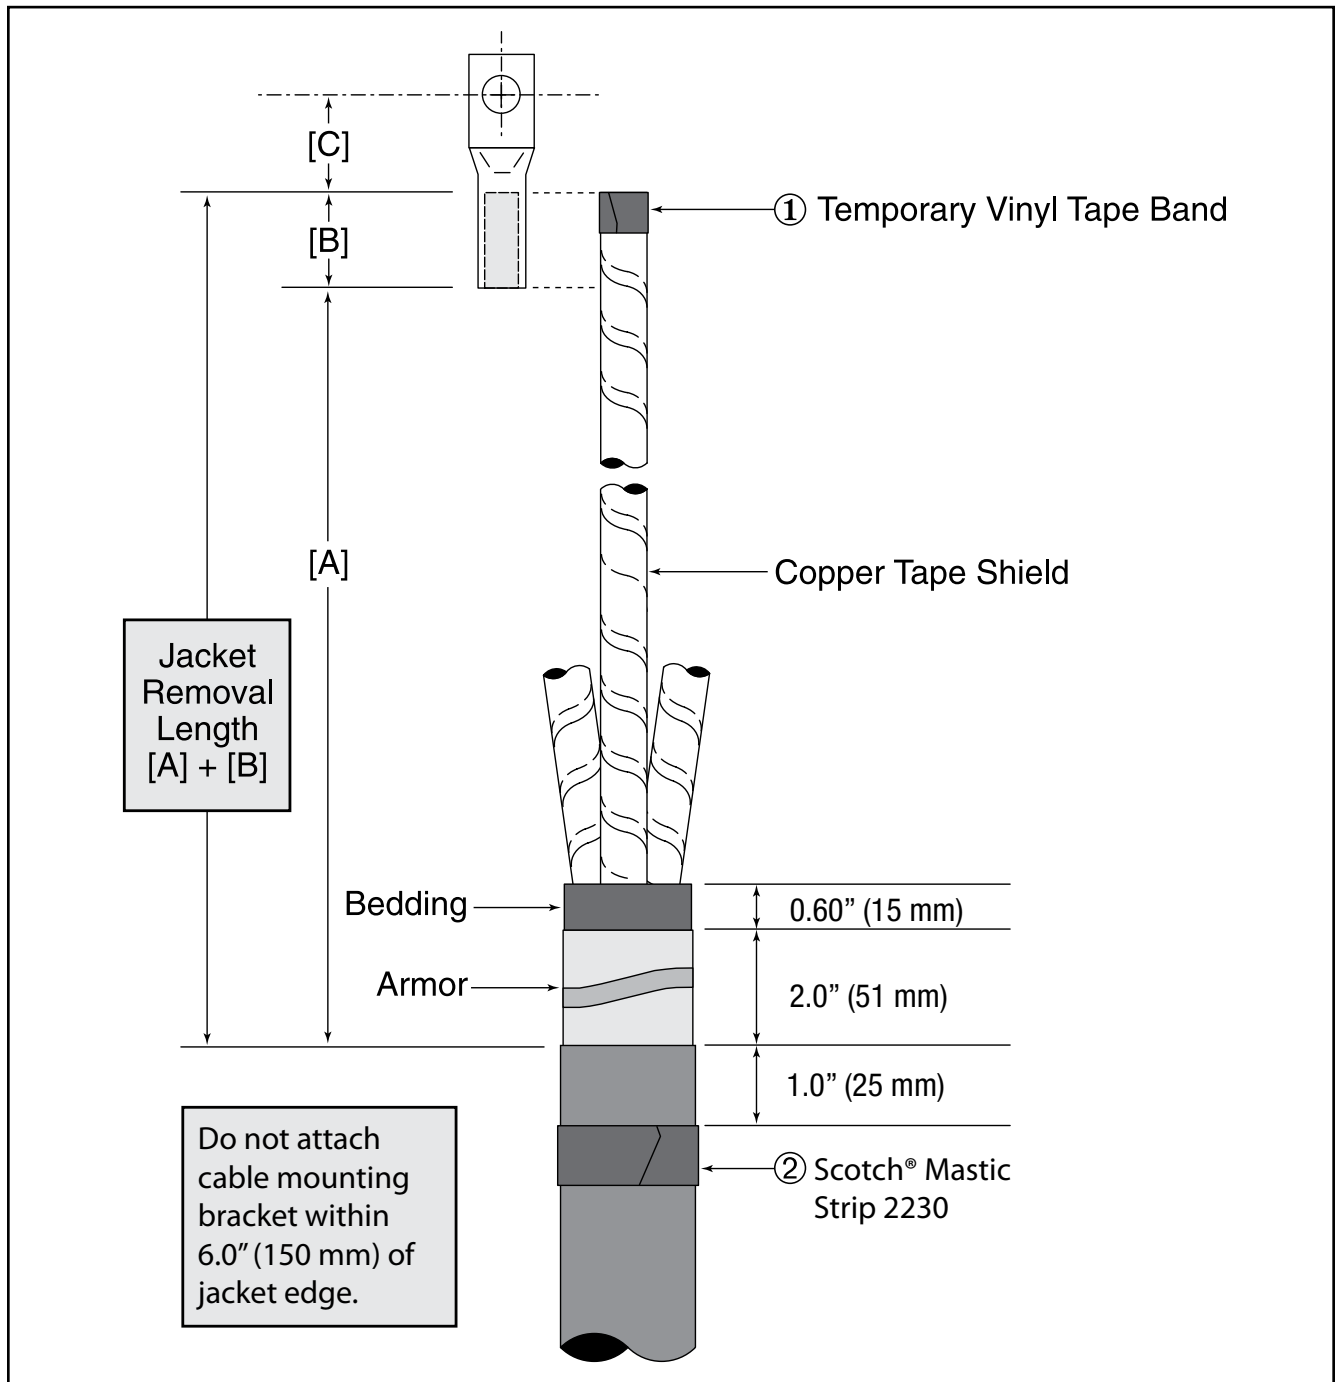

Figure 1
- 1.1 Determine cable jacket removal length required for correct phase spacing and bolted terminal lug connections ($[A] + [B]$ Figure 1, based on the longest phase to be connected). Allow for dimension $[C]$ as needed.
- 1.2 Remove cable jacket, armor, bedding (inner sheath) and core fillers according to Figure 1 dimensions. Secure each copper tape shield end with a temporary band of vinyl tape (① Figure 1).
- 1.3 Using light tension, wrap a Scotch® Mastic Strip 2230 strip around cable jacket 1.0" (25 mm) below the cut edge (② Figure 1).